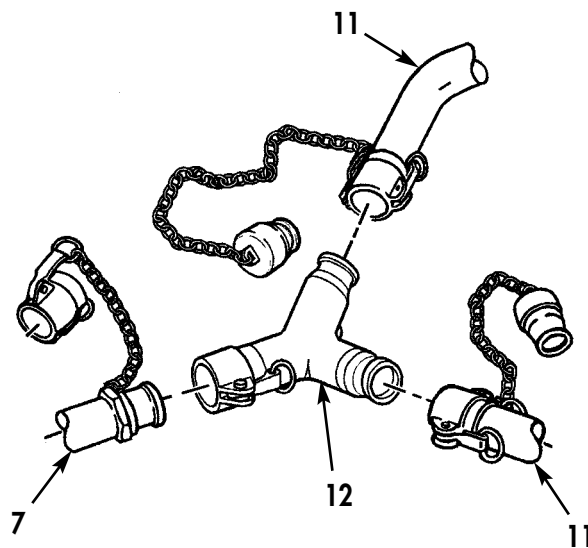

Figure 4. Disconnecting from Y-Fitting.
9. Remove 2 in. (51 mm) DIA x 10 ft (3 m) long discharge hose assemblies (Figure 4, Item 7) from Y-fitting (Figure 4, Item 12). Drain water from hose and install cap.
10. Disconnect two 2 in. (51 mm) DIA x 25 ft (7.6 m) long discharge hose assemblies (Figure 4, Item 11) from Y-fitting (Figure 4, Item 12). Install two caps and plug on Y-fitting (Figure 4, Item 12).